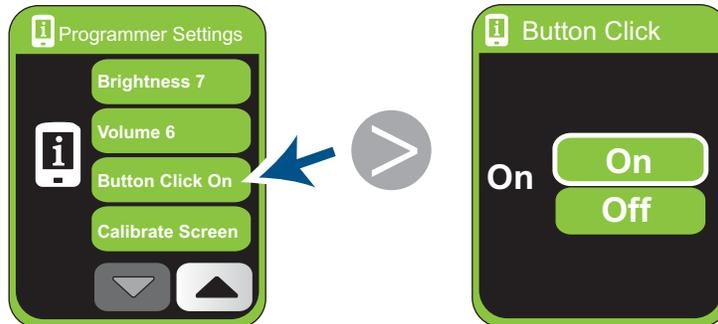

Figure 93. Displaying the Button Click screen
3. Tap  (Figure 93). The Button Click screen appears. A white frame borders the button with the active status.